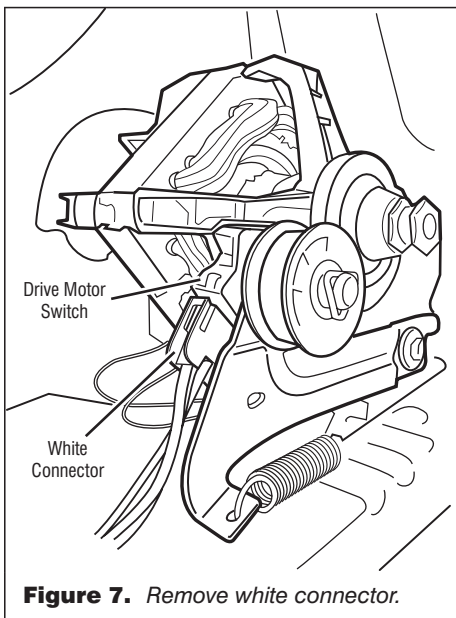

Figure 7. Remove white connector.
5. Remove the white connector from the drive motor switch. See figure 7, page 7.